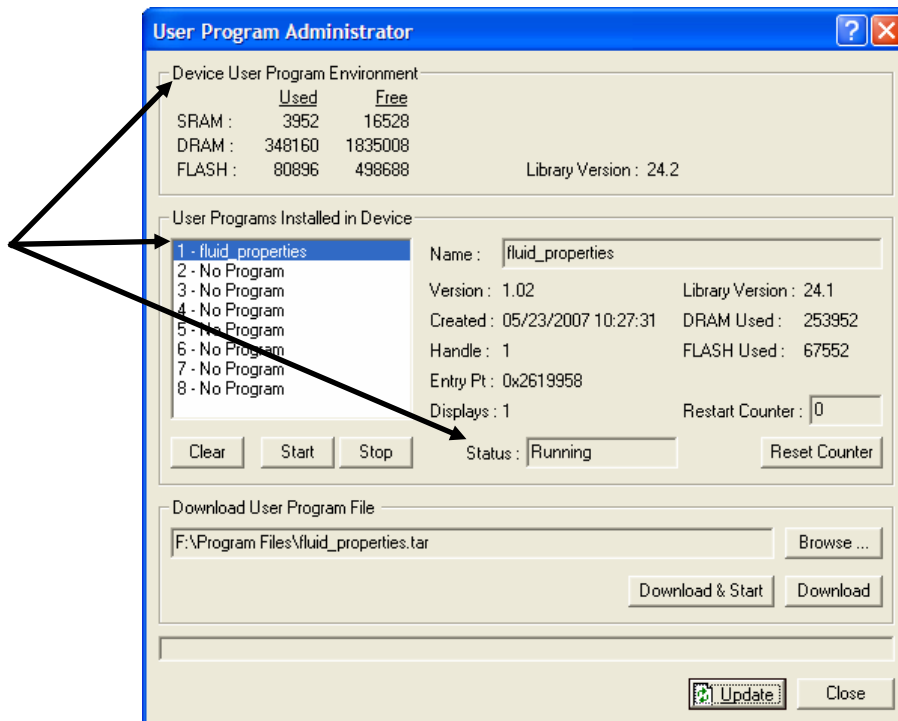

Figure 9. User Program Administrator
10. Click **OK**. The User Program Administrator screen displays (see Figure 9). Note that: